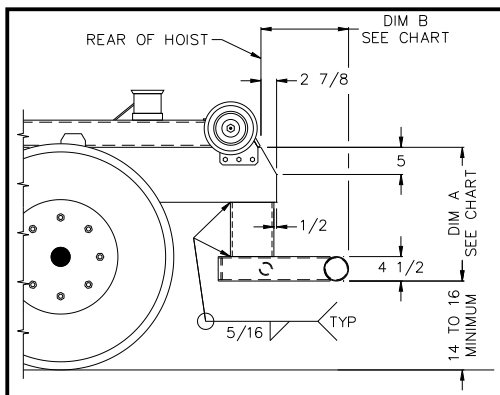
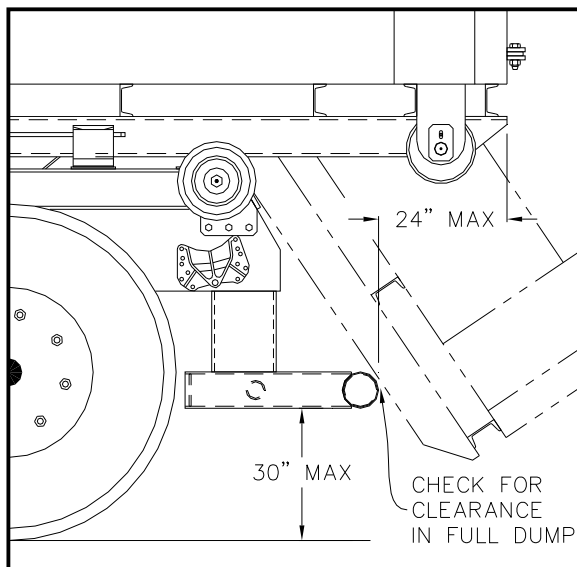

FIG. 1
FIG. 2
2. Trim truck frame to indicated dimensions (See Fig. 1). These dimensions will facilitate the mounting of the rear light assembly if it is also being mounted.
3. Measure the distance from the top of the truck frame to the ground (NOTE: This should be performed on a level surface). Based on this measurement and the dimensions in Fig. 1, the vertical channel [P/N: 63H94] may need to be modified in length to meet the Office of Motor Carrier Safety (OMCS) regulations. Regulation 393.86 requires that no bumper be located more than 30" off the ground when the truck is empty, and the end of the bumper should not be located more than 24" from the extreme rear of the vehicle, including truck bodies (See Fig. 2). Once the length has been determined for the vertical channels, weld them to the bottom of the truck frame (See additional notes on next page).
4. Center the bumper weldment [P/N: 52H12] on the vertical channels [P/N: 63H94]. Position rear of bumper from rear of the hoist as indicated by the bumper location chart. This is crucial in order to ensure that the container longills do not contact the bumper during the dump cycle (See Fig. 1 & 2).
5. Weld the bumper weldment to the vertical channels (See Fig. 1 & 3).
3. Measure the distance from the bottom of the truck frame to the ground (NOTE: This should be performed on a level surface). Based this measurement and the dimensions in Fig. 1, the vertical channel [P/N: 63H94] may need to be modified in length to meet the Office of Motor Carrier Safety (OMCS) regulations. Regulation 393.86 requires that no bumper be located more than 30" off the ground when the truck is empty, and the end of the bumper should not be located more than 24" from the extreme rear of the vehicle, including truck bodies (See Fig. 2). Once the length has been determined for the vertical channels, weld them to the truck frame (See additional notes on next page).
4. Center the bumper weldment [P/N: 52H12] with factory installed extensions [P/N: 52H13] on the vertical channels [P/N: 63H94]. Position rear of bumper from rear of the hoist as indicated by the bumper location chart. This is crucial in order to ensure that the container longills do not contact the bumper during the dump cycle (See Fig. 1 & 2).
1. Review all directions and diagrams provided before starting bumper installation. Typically, a drop down bumper is needed when the rear of the container extends beyond the back of the truck such that the distance between the truck bumper and container rear exceeds 24" (See Fig. 1). Office of Motor Carrier Safety (OMCS) Regulation 393.86 requires that no bumper be located more than 30" off the ground when the truck is empty, and the end of the bumper should not be located more than 24" from the extreme rear of the vehicle, including truck bodies (See Fig. 1).